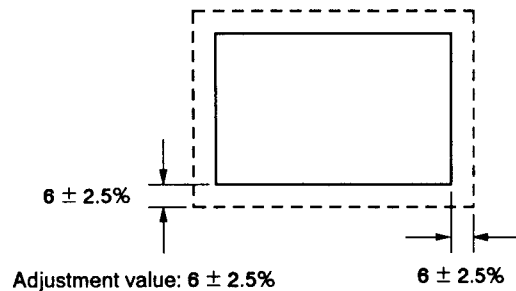

Fig. 8-44.
Specified Value	See Fig. 8-44.
- 1) Turn the centering adjustment rings to provide an image with even right, left, upper and lower margins. (See Fig. 8-44.)